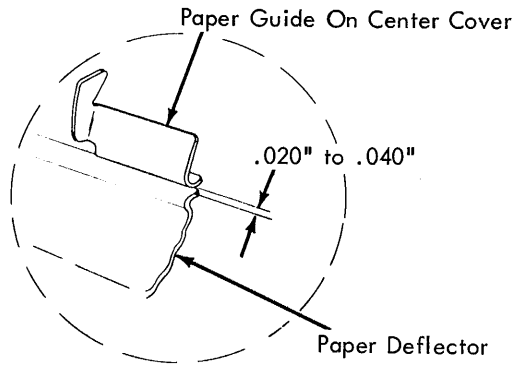

FIGURE 283. Shock Mounts
- c. The clearance between the paper guide and the deflector will be $.020''$ to $.040''$ (Fig. 283).